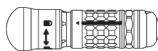

Figure 4
4. To insert cranial perforator, pull back on lock sleeve at distal end of attachment, insert cranial perforator until fully seated and release lock sleeve (Figure 4).